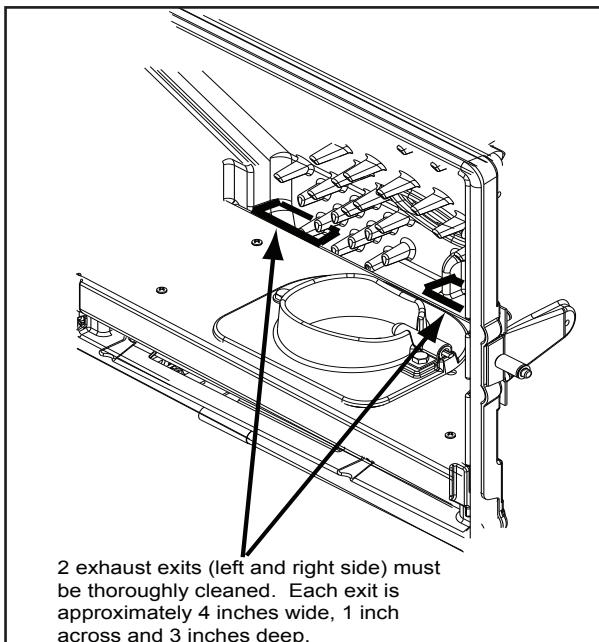

Figure 24.2
d. Use the crevice tool to finish cleaning the heat exchanger fins. It is critical that the 2 exhaust exits at the back of the firebox floor (left and right) be thoroughly cleaned. **Figure 24.2.** There are several ways this can be done.